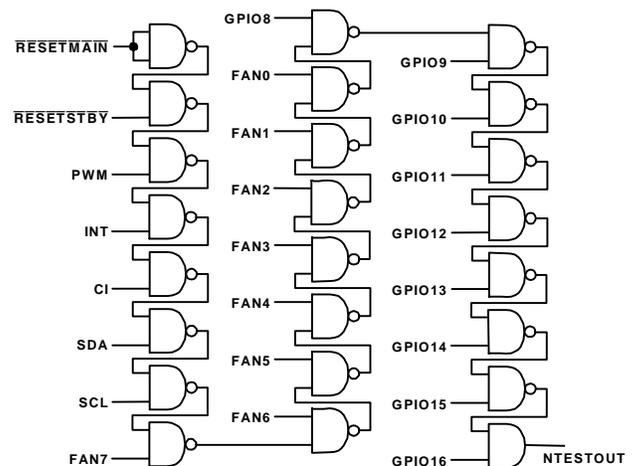

Figure 21. NAND Tree
A NAND tree is provided in the ADM1026 for Automated Test Equipment (ATE) board level connectivity testing. This allows the functionality of all digital inputs to be tested in a simple manner and any pins that are non-functional or shorted together to be identified. The structure of the NAND tree is shown in Figure 21. The device is placed into NAND Tree Test Mode by powering up with pin 25 held high. This pin is sampled automatically after power-up and if it is connected high, then the NAND test mode is invoked.
2. If any of the inputs shown in Figure 21 are unused, they should not be connected direct to ground, but via a resistor such as 10kΩ. This will allow the ATE (Automatic Test Equipment) to drive every input high so that the NAND tree test can be properly carried out.